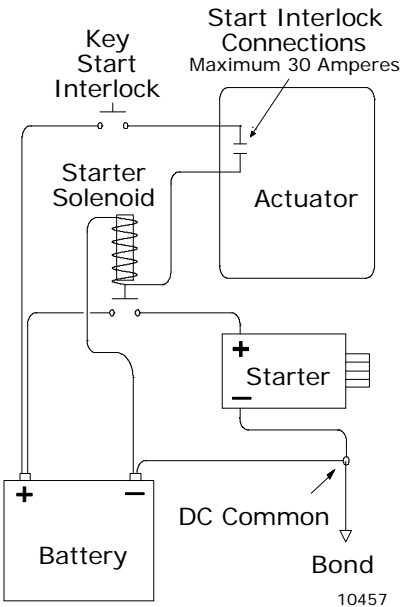

Figure 5 – Start Interlock
MicroCommander is interlocked to prevent engine 'start' until power is 'ON' and the transmission is in 'NEUTRAL'. The engine 'START' signal must be connected through the Actuator to the starter solenoid or relay. (See Figure 5) The interlock will function with a 'START' signal up to 50 volts DC and 30 amp maximum.
The start interlock cable, two (2) wires are yellow with a red stripe. Remove the key start lead at the start solenoid. (See Figure 5) Connect one (1) yellow with red striped wire to this